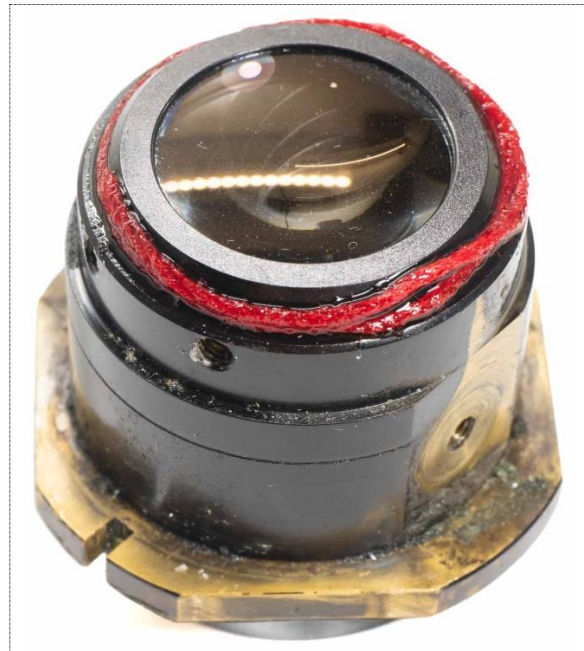

Figure 29: A yarn string (red) wetted with white spirit and put around the periphery of the lens retainer.
- If the lens retainer still is stuck, treat its thread with white spirit to soften the hardened grease. Wrap a 1-2 mm thick yarn string around the periphery of the lens retainer and wet the string thoroughly with white spirit (Figure 29.) Use a pipette or dropper to apply the solvent dropwise. Avoid overflowing and try to avoid getting solvent on the lens. As the solvent slowly evaporates, more of it must be added every few hours to make sure that the yarn is well wetted all the time. Let the solvent work for at least one day before wiping off the solvent and again trying to release the lens retainer with the jar opener.